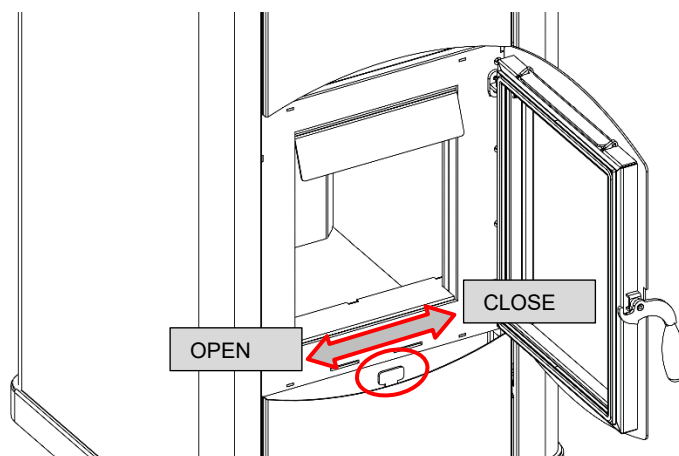

Fig.15
- 1 Place the starter lever in the maximum Open position (fig.15)